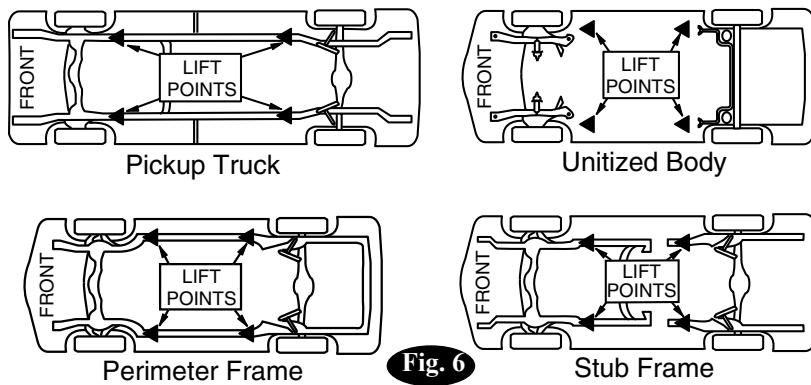

Fig. 6
manufacturer's recommended lift points, Fig. 6. Use intermediate, high step or optional adapters/extensions for under-body clearance when required, Fig. 7.
- Check Adapter Contact:** Stop and check adapters for secure contact at vehicle manufacturer's recommended lift points, Fig. 6. Shake car moderately at front or rear bumper.